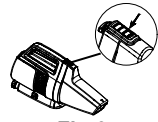

Fig 3.4
Note: When removing the vacuum body cover (3), press the spring button to release the vacuum body cover. See fig 3.4.